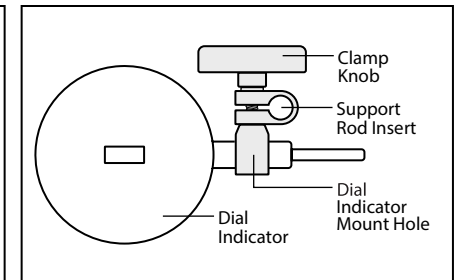

Fig. 4
**1. TO FIX A MEASURING TOOL IN THE DIAL INDICATOR MOUNT HOLE** (See Fig.4)